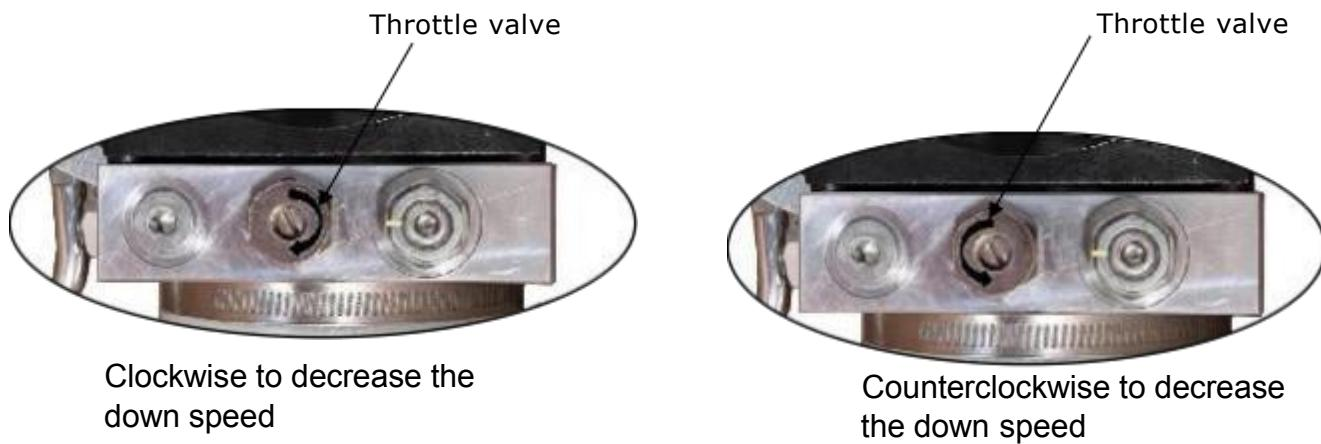

Fig.37
1. Adjust the lower speed (Fig.37)